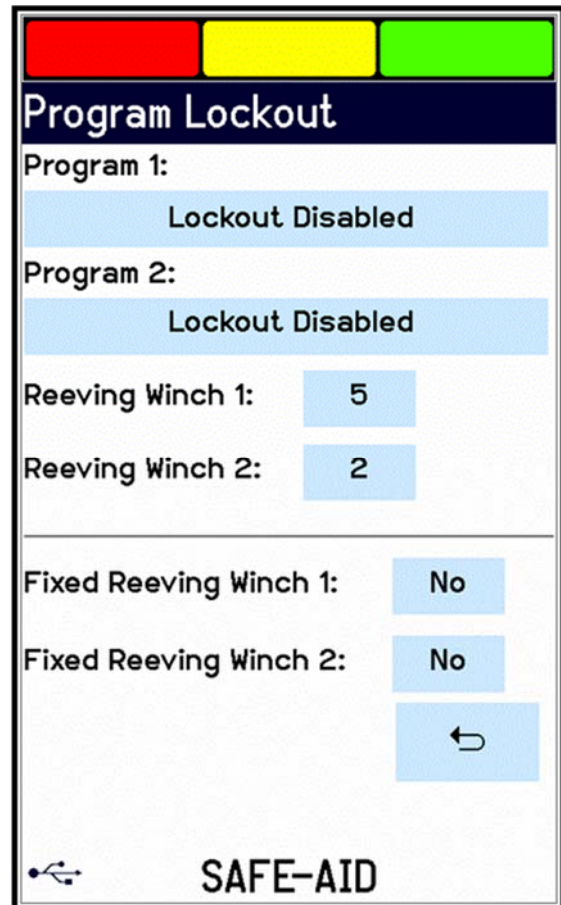

Figure 26
2. Enter the four digit password [- - -] followed by the  button, the Program Lockout screen will be displayed (figure 26).
4.  Select **No** - the screen will return back to the Program Lockout screen and **Lockout Disabled** will be displayed in the selected button (figure 26). Repeat this for Program 1 & 2 if all programs are to have access. If only one program is locked the other will display
2. Enter the four digit password [- - -] followed by the **Enter** button, the Program Lockout screen will be displayed (figure 26).